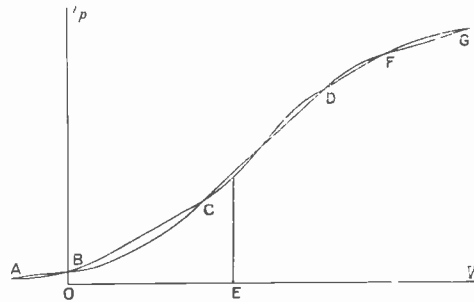

Fig. 2.
The number of these electrons, their distance from the centre and their relative positions, are different in every element, and it is these electrons which are supposed to give to an element its chemical properties. Thus, the difference between lead and gold may be that the atoms of the one possess a greater number of electrons than the other (Fig. 2), and so if we were able to vary the number of electrons in an atom we should be able to change lead into gold, which would be most unfortunate. However, no physical forces at our disposal have so far been able to alter in the slightest degree the structure of the atom, although we have in what are known as radio-active substances, *e.g.*, radium and uranium, examples of atoms emitting some of their electrons. This process, however, takes place very
Fig. 2. Atoms of three different elements. (a) With one electron revolving round the positive core. (b) With six electrons in two orbits. (c) With twelve electrons in three orbits.
Thus it is required to find a solution of (3) for which (4) is satisfied. The relation (4) may be represented graphically as in Fig. 2.